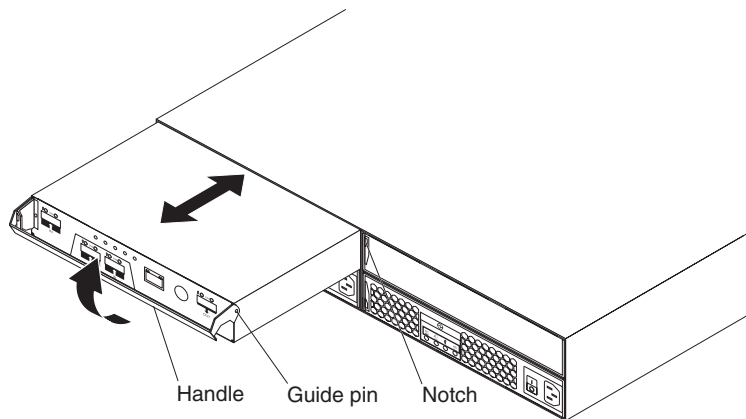

Figure 38. Removing a controller
- b. Slowly pull the handle away from the chassis to remove the controller from the bay, as shown in Figure 38.